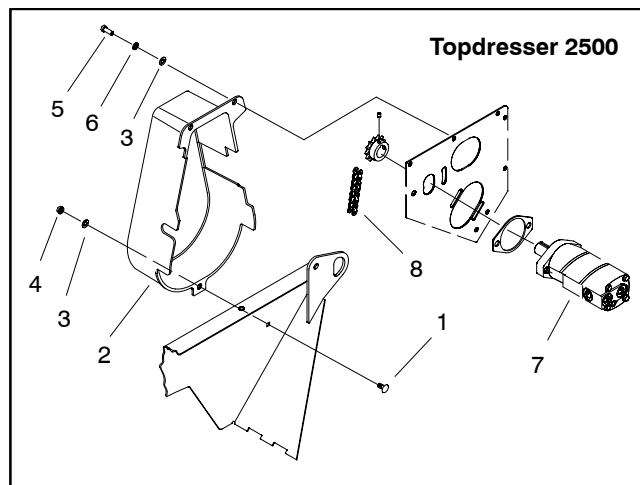

Figure 30
3. Remove chain guard from outside of frame (Figs. 30 and 31).
4. Loosen but do not remove two (2) cap screws (item 3), lock washers (item 2) and flat washers (item 1) that secure conveyor motor to frame.
6. Loosen two (2) set screws (item 5) that secure sprocket to conveyor motor shaft.
11. Support conveyor motor to prevent it from shifting. Remove two (2) cap screws (item 3), lock washers (item 2) and flat washers (item 1) that secure motor to frame. Remove conveyor motor from the machine. Remove spacer plate from between motor and frame.
12. Install chain guard to outside of frame (Figs. 30 and 31).